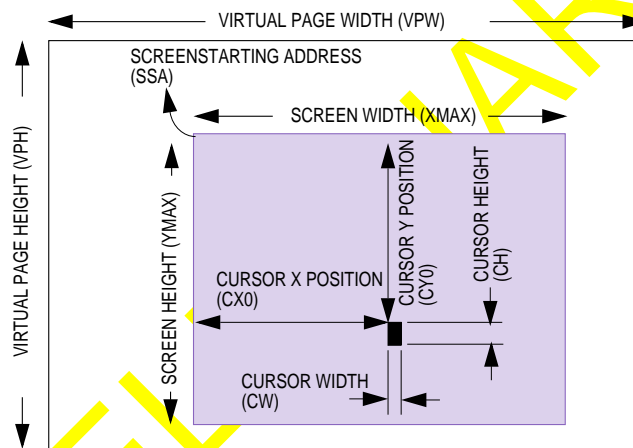

Figure 8-5. LCD Screen Format
8.2.4.1 LCD SCREEN FORMAT. The LCD panel's screen width and height can be programmed in the software. Figure 8-5 illustrates the relationship between part of a large graphics file displayed on screen versus the actual page in pixel counts.
The LCD screen width (LXMAX) and screen height (LYMAX) registers specify the size of the LCD panel. The LCD controller starts scanning the display memory at the location pointed to by the LCD screen starting address (LSSA) register, which means the LCD panel will display the shaded area in Figure 8-5.